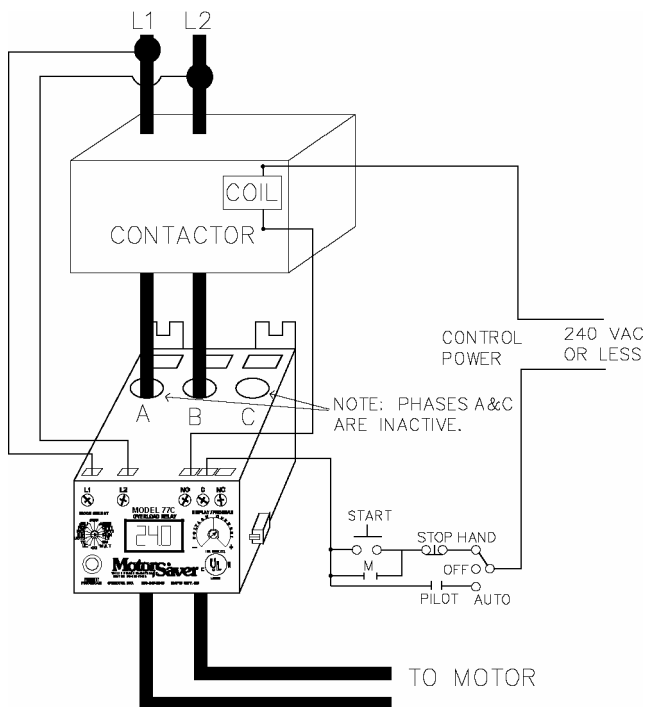

Figure 1: Typical Wiring Diagram
2. Insert the motor conductors through the round holes marked A and B. Terminate the conductors at the line or load side of the magnetic contactor. **For motors with full load amps less than 25 Amps**, loop the conductors through the holes marked A and B according to Table 1. The rectangular holes are provided for wire looping (see Figure 1).
4. Connect the single-phase power from the line side of the contactor to L1 and L2. First insert a #12 - #18 AWG copper wire into the top of the terminal marked L1 and tighten the screw on the front of the overload relay. Connect the other end of the wire to the line side of the contactor. Repeat these steps for L2 (see Figure 1).
5. Connect the output relay to the circuitry to be controlled (see Figure 1). To control a motor, connect the NO (normally open) contact in series with the magnetic coil of the motor starter as shown. To sound an alarm, connect the NC (normally closed) contact in series with the alarm (not shown).
| Motor starts and stops a short time later but there is no fault indicator                           | Control circuit may be wired to NC relay rather than NO relay (see Figure 1, page 3).                                                                                                                                                                   |